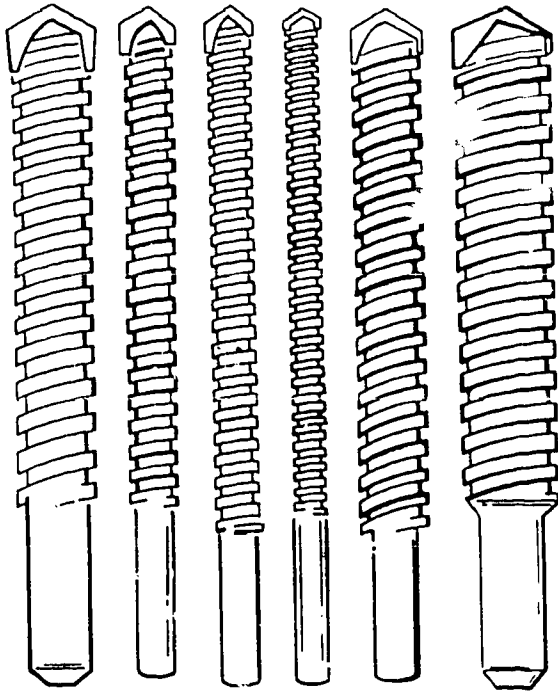

Figure 2-4. Masonry drills.
**Masonry Drills.** Several types of masonry drills are available for drilling holes in concrete, brick, and cinder block. Holes are needed when attaching sheet metalwork, such as downspouting, duct work, and metal awnings. One type of masonry drill is the star drill (not illustrated) that somewhat resembles a chisel except that the cutting tip forms a cross. Star drills are available in various sizes and are driven by hand with a heavy ball peen hammer. Another type of masonry drill, which is illustrated in figure 2-4, is designed to fit in the chuck of portable power drills. These masonry drills have tungsten-carbide cutting tips and are available in sizes 1/4 to 3/4 inch. A 1/2-inch portable drill should be used with masonry drills that are 3/8 inch and larger.